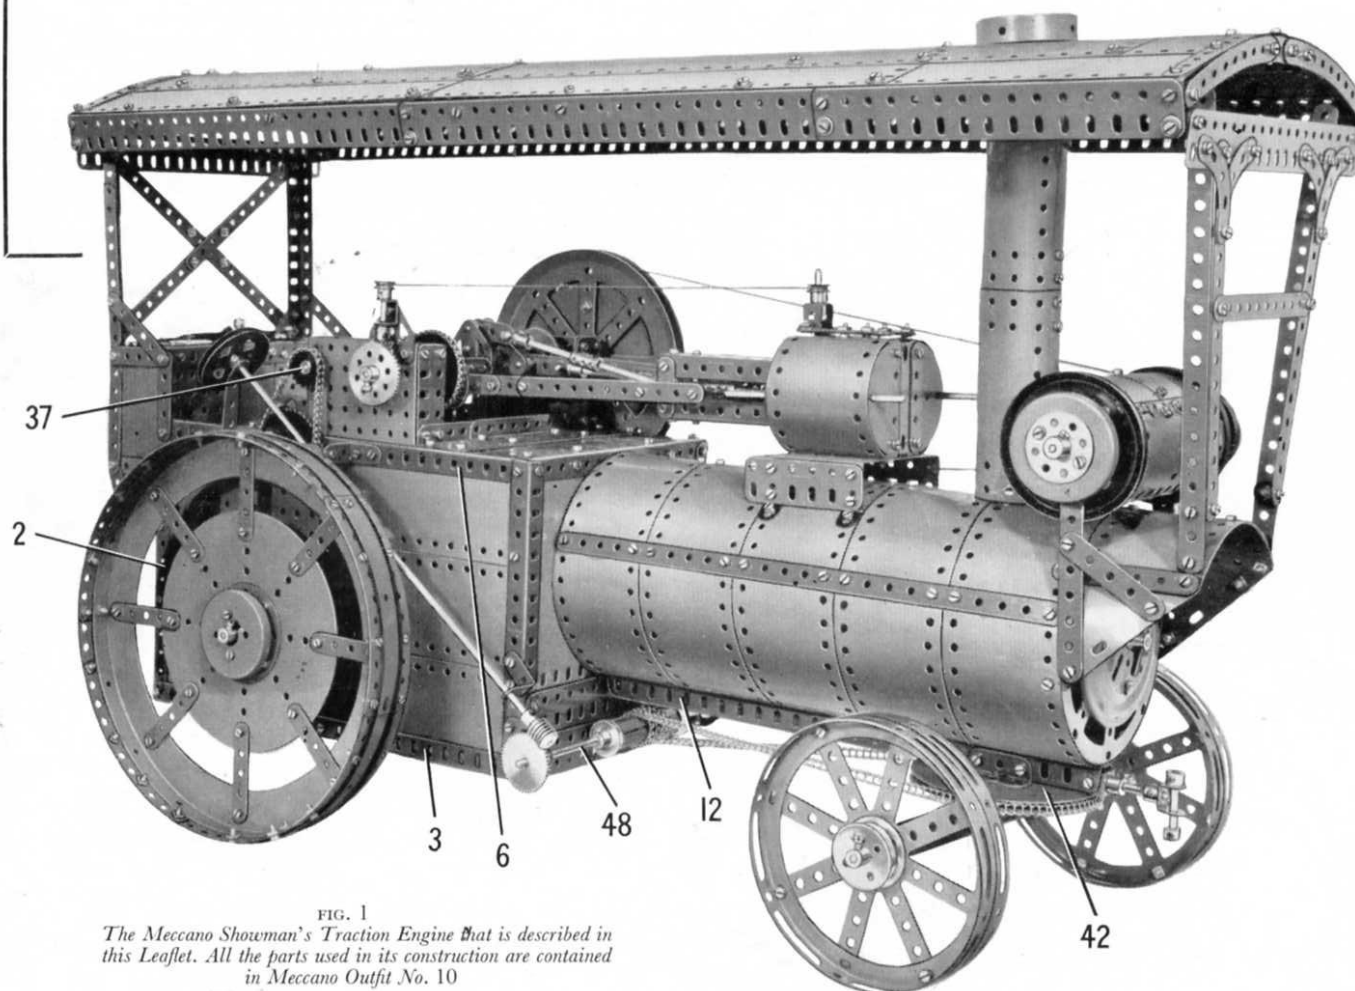

FIG. 1
Construction of the Body and Coal Bunker (Figs. 1, 2, 4 and 6)
The Boiler (Figs. 1 and 2)
The Dynamo (Figs. 1 and 2)
The dynamo seen on top of the boiler at the front, is made by bolting two $4\frac{1}{2}$ " \times $\frac{1}{2}$ " Double Angle Strips between two 3" Pulleys. Washers are placed between the lugs of the Double Angle Strips and the Pulleys, to allow two $5\frac{1}{2}$ " \times $2\frac{1}{2}$ " Flexible Plates and two $1\frac{1}{8}$ " radius Curved Plates to be bolted in position as shown in Figs. 1 and 2.
Construction of the Canopy and Chimney (Figs. 1, 2 and 5)
The canopy is supported at the rear by two made-up angle girders bolted to $1\frac{1}{2}$ " Corner brackets (53) (Fig. 6) fixed to the body. Each of these girders consists of a $4\frac{1}{2}$ " and a 2" Angle Girder. The front supports are made from two built-up girders each consisting of a $9\frac{1}{2}$ " and a $7\frac{1}{2}$ " Strip joined by Angle Brackets. The lower ends of these girders are attached to Obtuse Angle Brackets fixed to the boiler cowl. The front and rear canopy supports are braced as shown in Figs 1 and 2.